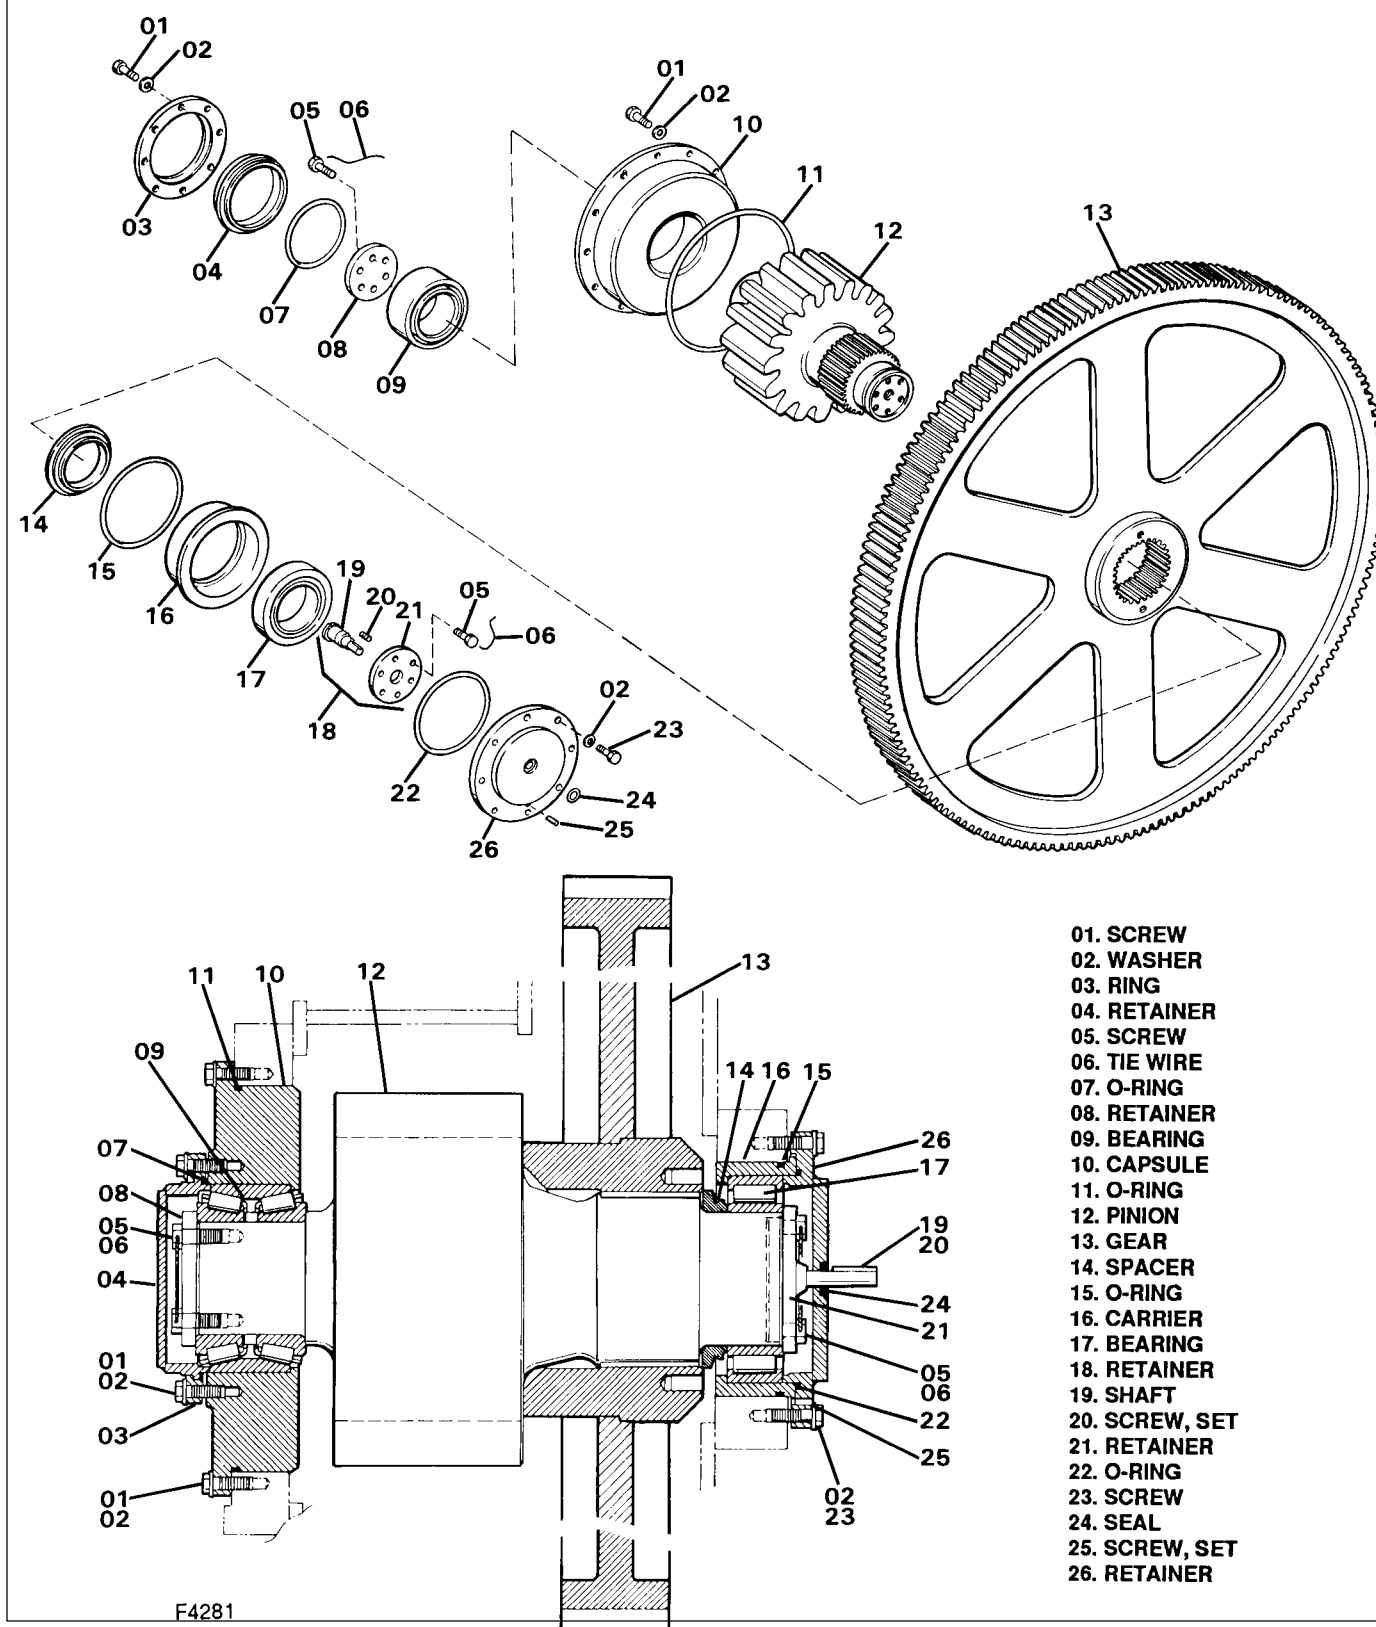

Figure 6-16. Second Reduction Shaft (910J634F1)
The second reduction shaft (Figure 6-16) is straddle- mounted in the crowd gear case cover as shown in Figure 6-7.
Refer to Figure 6-16 and remove the second reduction shaft assembly as follows:
Refer to Figure 6-16 and assemble the second reduction shaft into the crowd gear case cover as follows:
6. Preheat bearing (17) cone and install it with carrier (16) on the pinion shaft, tight against the gear case cover.
7. Install bearing retainer (08) and tighten capscrews (05) to 266 ft-lbs (361 N.m). Tie wire the capscrews. Install shaft (19) into retainer (21) and install retainer (21) in the same manner.
8. Lubricate and install a new O-ring (07) on retainer (04) on the pinion shaft.
9. Install retainer ring (03) and secure with capscrews (01) and washers (02). Tighten capscrews (01) to 150 ft-lbs (203 N.m) torque.
10. Lubricate a new O-ring (15) and install it on retainer (26). Install retainer (26) on shaft (19), maintaining the gap shown in Figure 6-16 (assembled view). Adjust setscrew (25) as required. Install capscrews (23) and washers (02) and tighten capscrews (23) to 150 ft-lbs (203 N.m).
11. Install new oil seal (24).